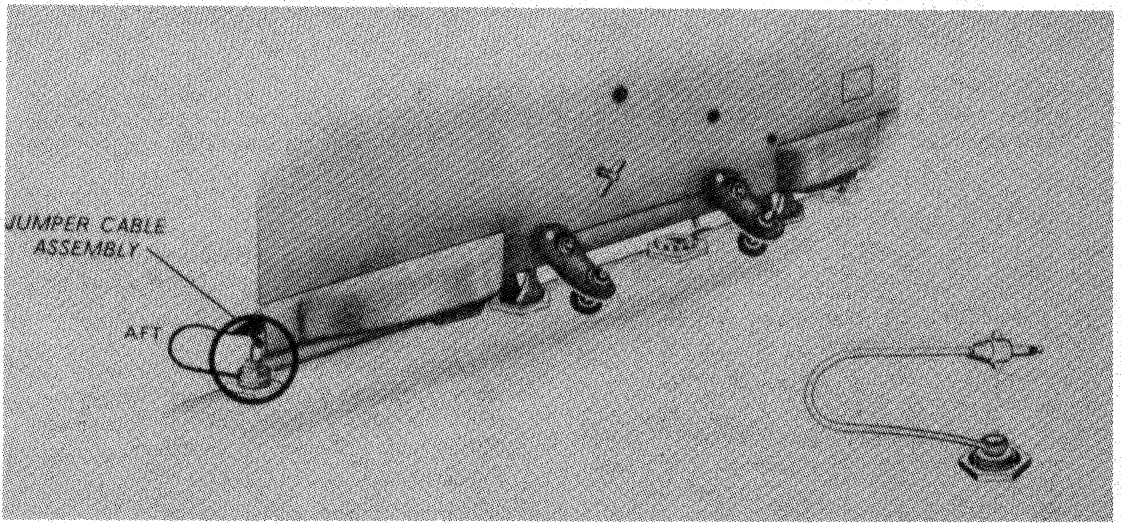

Figure 2-6. Installation of Jumper Cable Assembly (Optional)
- a-1. Jumper Cable Assembly (Figure 2-6)—Electrical connection is made by inserting cable jack in AFT receptacle of bomb rack until a positive connection is made.